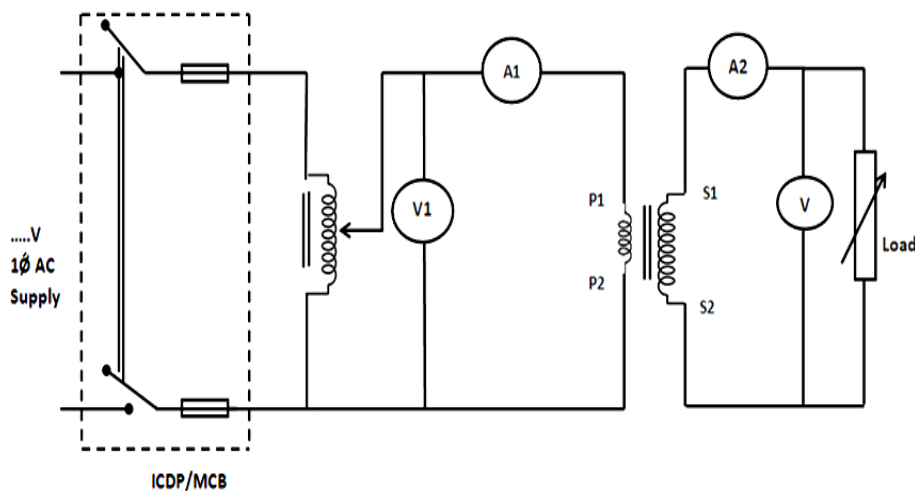

Fig.2: Step-up Mode
1. Make the connections as per circuit diagram as shown in Fig. 2